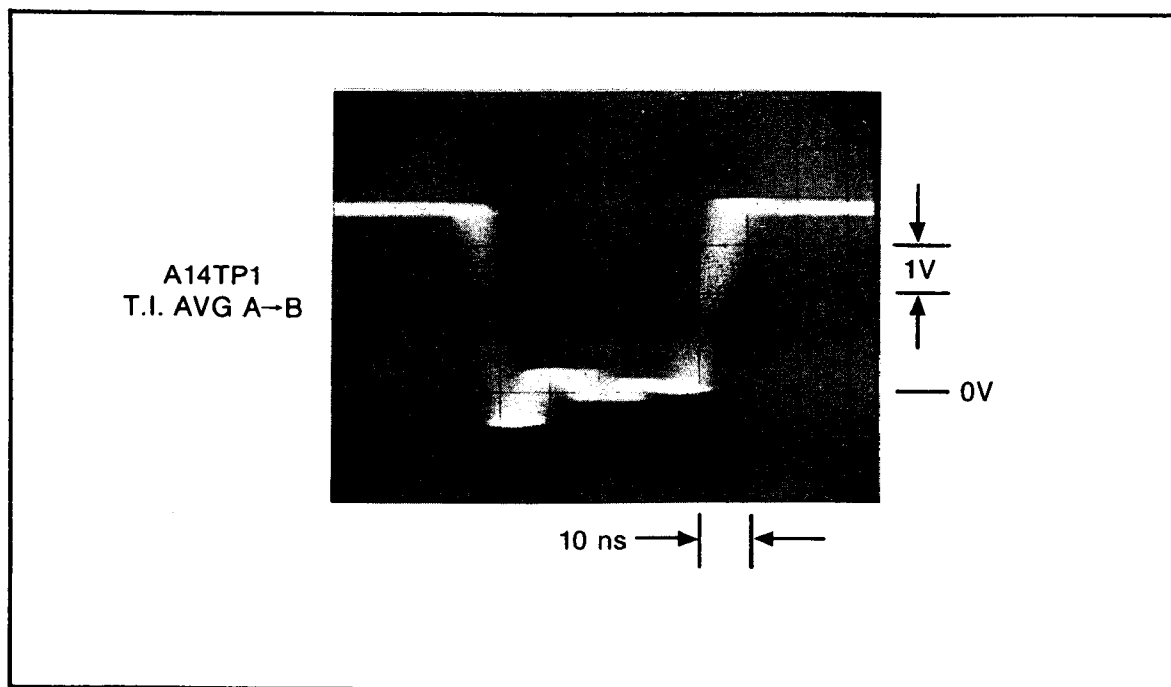

Figure 5-5. TTL 10 MHz Time Base Waveform
- e. Observe the 10 MHz signal at A14TP1 with the oscilloscope (still externally triggered). Observe approximately 8 nanoseconds peak-to-peak jitter on the TTL 10 MHz signal as shown in Figure 5-5.